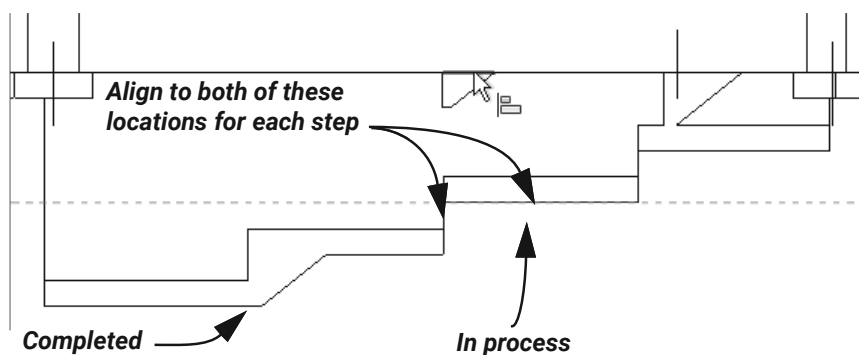

Figure 7-58
13. Align each angled footing to the wall footings, as shown in Figure 7-58.